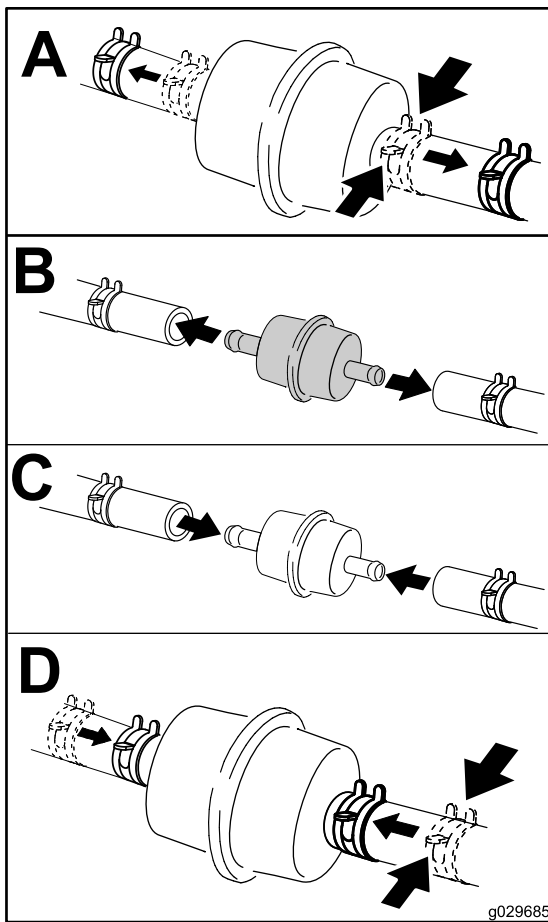

Figure 62
4. Replace the fuel filter (Figure 62).